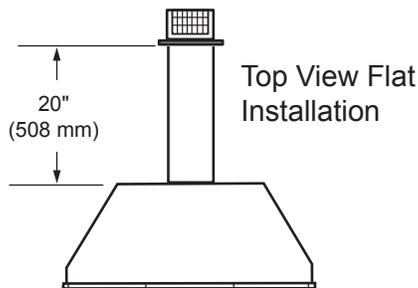

Figure 17 - Rear Vent Application, Maximum Horizontal Distance
- The maximum horizontal distance between the rear of the appliance and the outside face of the rear wall is 20" (508 m). *Figure 17*